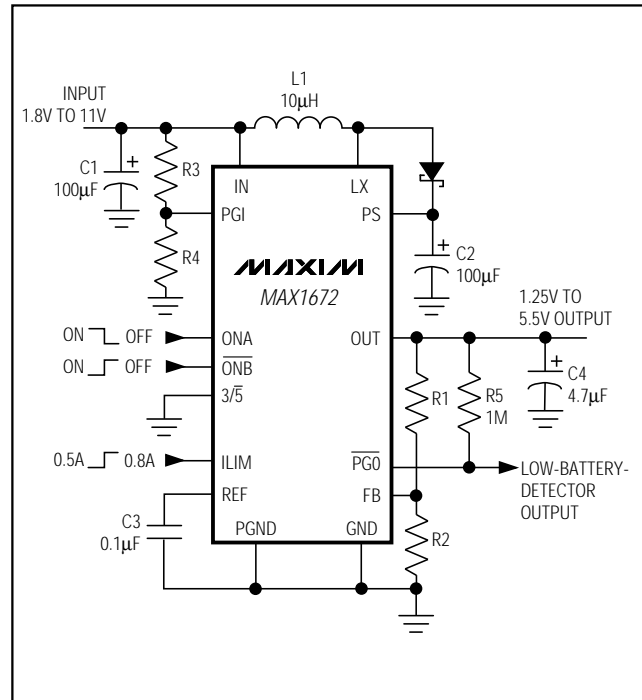

Figure 2. Adjustable Output Voltage Configuration
For fixed output voltages of 3.3V or 5V, connect  $3\sqrt{5}$  to PS or GND and connect FB to GND (Table 2). Alternatively, adjust the output voltage from 1.25V to 5.5V by connecting two resistors, R1 and R2 (Figure 2), which form a voltage divider between OUT and FB. Choose resistor values as follows:
The MAX1672 contains a comparator for low-battery detection. If the voltage at PGI falls below  $V_{REF}$  (typically 1.25V), the open-drain comparator output ( $\overline{PGO}$ ) goes high. Hysteresis is typically 30mV. Set the low-battery detector's threshold with resistors R3 and R4 (Figure 2) using the following equation:
- Keep the IC's GND pin and the ground leads of C1 and C2 (Figure 2) less than 0.2in. (5mm) apart.